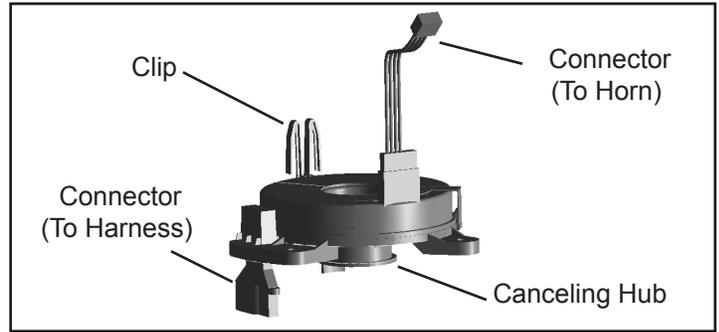

Figure 8 Clockspring - Bottom View
9. Disconnect the electrical connector on the bottom side of the clockspring by prying the locking tab gently with a flat blade screwdriver. The locking tab is located on the steering column side of the housing. Refer to Figure 8.